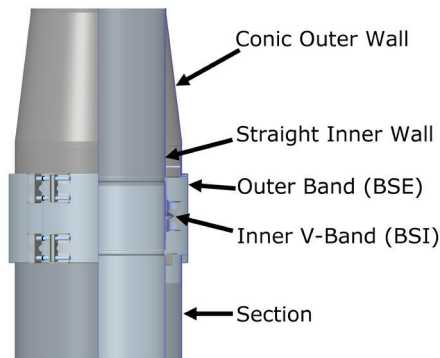

Figure 67- Exit Cone (EC) installed
The Finishing Cone (FC) is a single wall construction (for Model SCL) or a Double wall construction (for Models CAX1, CIX1, CIX2 and CIX4), where the inner wall is straight, but the outer wall is a cone. It attaches with a standard Inner V-Band (BSI) and Outer Band (BSE) (See **JOINT ASSEMBLY Section**) to the uppermost chimney pipe section. To prevent rain from reaching an appliance this installation requires use of a Drain Length (DL) in a vertical run or a Drain Tee Cap (DTC) at the end of a vertical chimney. See **Figure 67**.